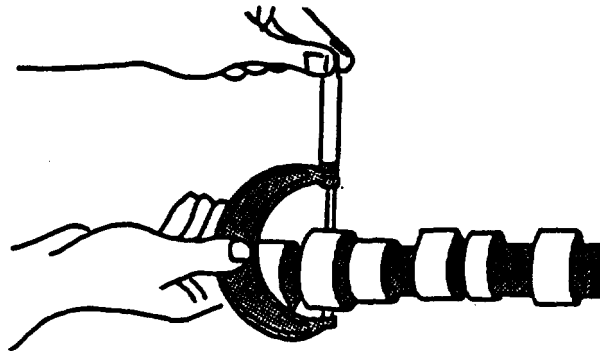

FIGURE 3-111. Measuring Camshaft Journals
- (1) Use a micrometer to take measurements, refer to FIGURE 3-111.
- (2) New camshaft journal diameter is 2.200 to 2.201 inches (55.87 to 55.90 mm). Maximum wear tolerance is 0.001 inch (0.025 mm).
- (3) If a camshaft journal diameter is less than 2.199 inches (55.85 mm), install a new camshaft.
- (4) Measure camshaft bearing bore diameter in cylinder block; 2.204 to 2.205 inches (55.98 to 56.01 mm). Maximum clearance between bore and camshaft journal; 0.007 inch (0.18 mm).